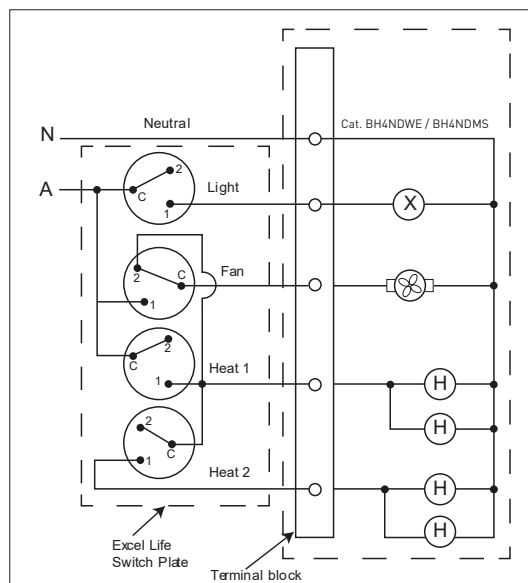

Fig: 8
Three switches on an Excel Life™ wall plate are supplied. Do not use with any solid state speed control. Wall plate should be located so that the switches are not within reach of a person in a bath or shower. Wiring connection is as per Fig. 8.
**CAUTION:** Warranty will be void if the bathroom heater unit is not wired as per wiring diagram (Fig.8) above.